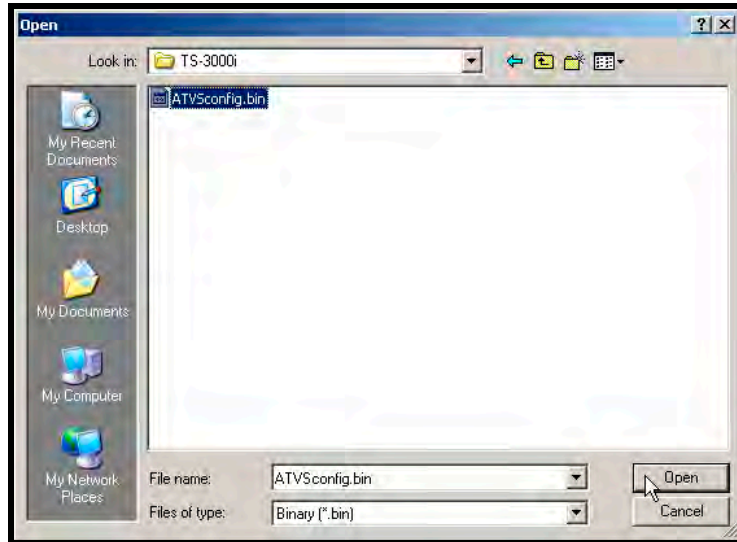

Figure 5-12: Windows Open Dialog
- Step 3.** Browse to select the shared clock file using the Windows Open dialog (see *Figure 5-12*). For example, this file could be a configuration file labeled “*ATVSConfig.bin*” and in this example, this file was previously created as a shared configuration file using the clock Backup Utility (see Chapter 4: Utility Settings for FTP Server). This “*ATVSConfig.bin*” file was created from a TS-3000i clock that was already configured via the web interface. In effect, what this utility is allowing you to do is to replicate the configuration of a previously configured clock to multiple clocks through the Update Configuration function.
- Step 2.** Browse to select the clock “ATVSConfig.bin” file using the Windows Open dialog (see Figure 5-12).